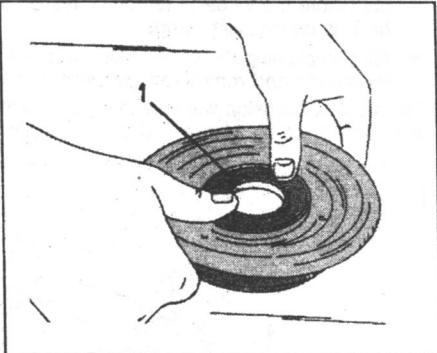

Fig. 5.7. — Fitting the needle thrust bearing (1) into the upper spring cup.
shown in Fig. 5.7. If the bearing is difficult to fit in the manner shown, carefully use a rubber or plastic mallet to tap it in.
- Insert the rebound rubber (1) into the inside of the spring cup and fit the seal (5) in a similar manner as shown in Fig. 5.7. Lubricate the sealing ring and place the needle thrust bearing locating washer (3) and then the strut bearing (7) over the assembled parts.